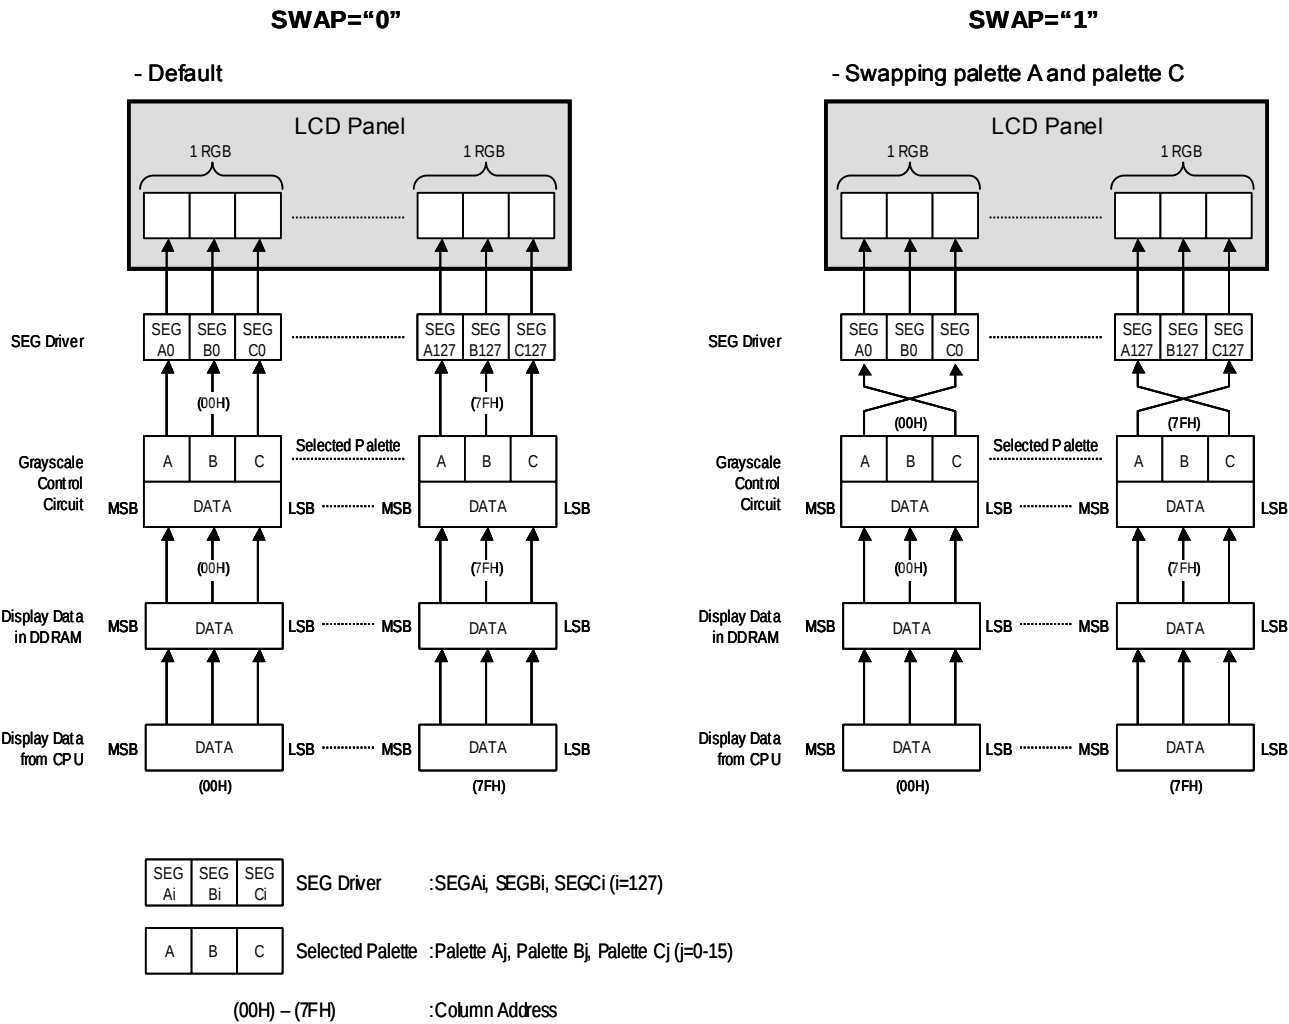

Fig 23 Overview of SWAP Function
(17) SWAP FUNCTION
The swap function switches the palettes Aj and the palettes Cj (j=0-15), and is controlled by the D₁ (SWAP) bit of the “Display Control (2)” instruction. This function reduces the restrictions on the IC position of an LCD module. Fig 23 “Overview of Swap Function” illustrates general outlines of internal operations, and (17-1-1) through (17-1-4) show each configuration on a mode-by-mode basis.